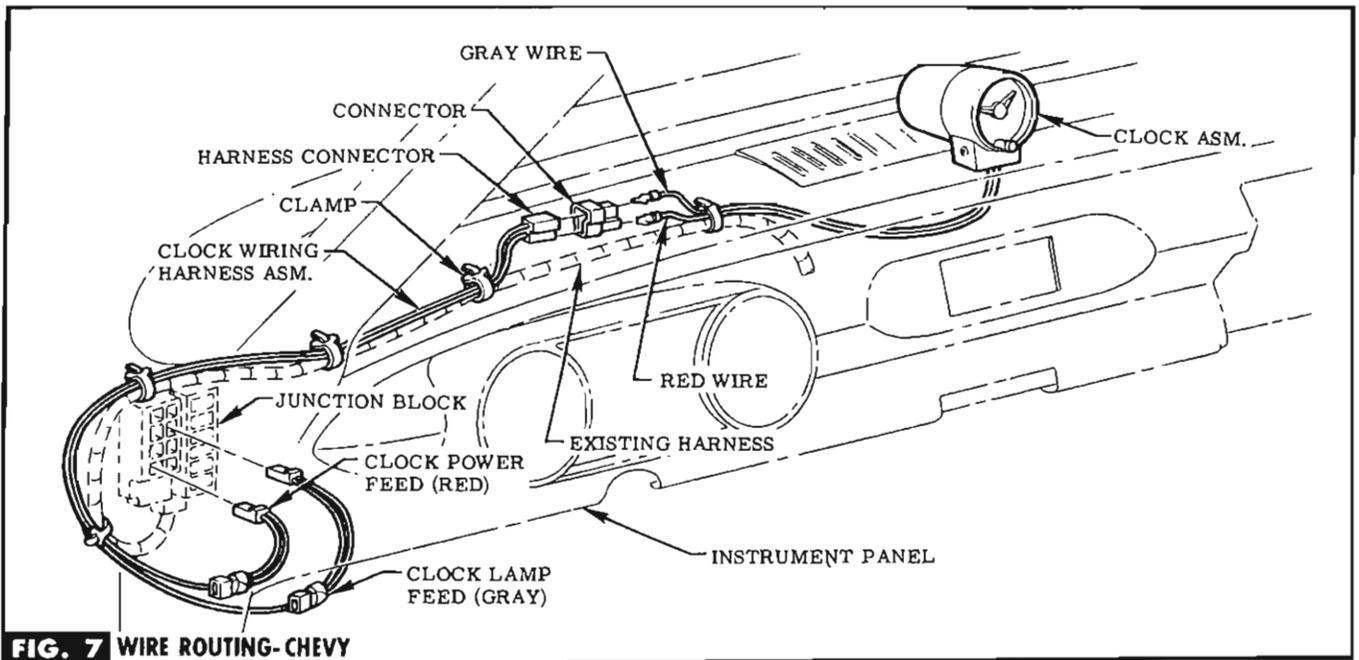

FIG. 7 WIRE ROUTING-CHEVY
- FIG. 7 - CONVENTIONAL TRUCK (EXCEPT TILT CABS)
STEP 9 (CHEVY ONLY) PLUG RED WIRE CONNECTOR INTO RECEPTACLE IN JUNCTION BLOCK MARKED "CLK". SEE FIG. 7. **NOTE** If receptacle is occupied, remove existing wire & plug into jumper wire.
STEP 10 (CHEVY ONLY) PLUG GRAY WIRE CONNECTOR INTO RECEPTACLE IN JUNCTION BLOCK MARKED "PNL. LPS". SEE FIG. 7. **NOTE** If receptacle is occupied, remove existing wire & plug into jumper wire.